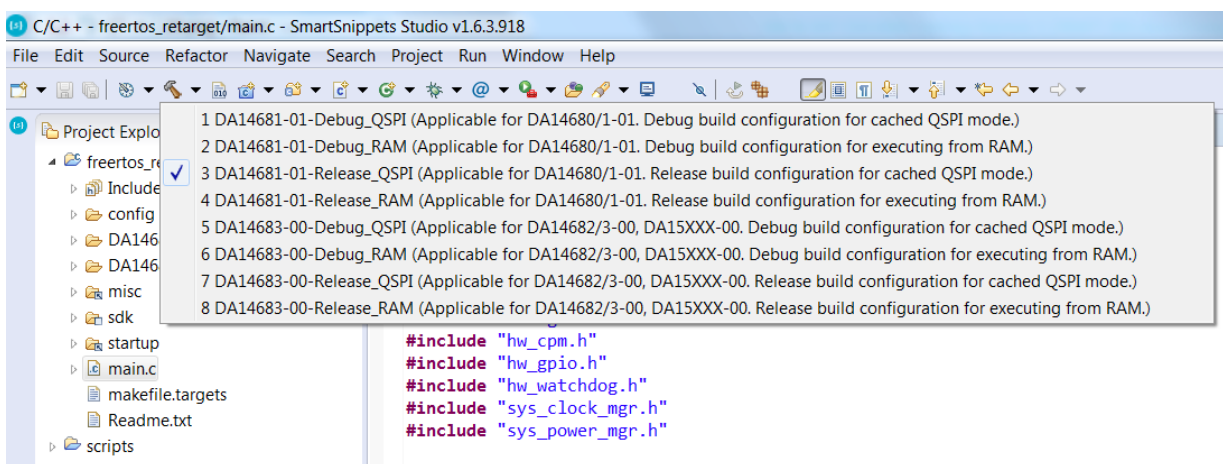

Figure 38: Build Blinky in Release QSPI configuration
2. Build the project using the build icon () and select a QSPI configuration as shown in Figure 38.